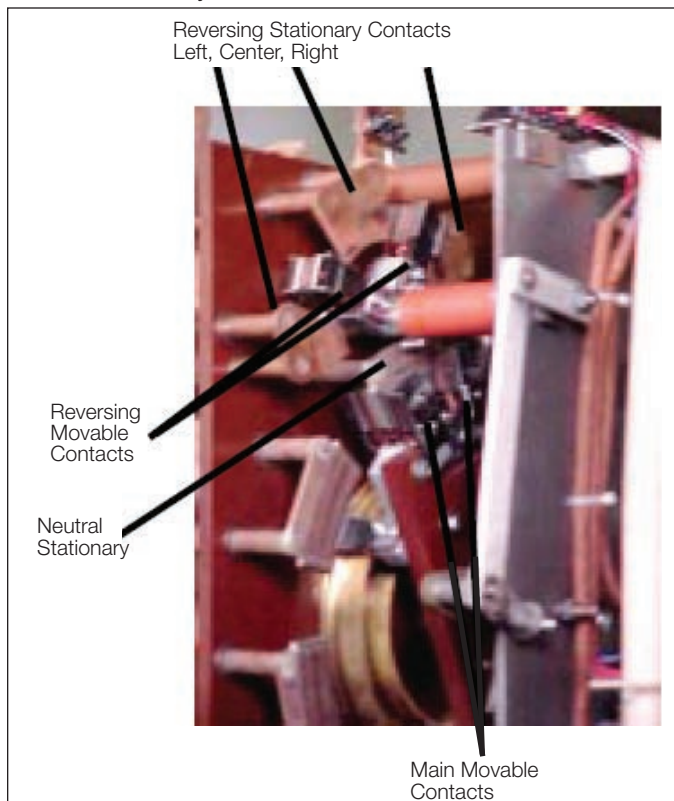

Figure 6.
- The reversing movable contacts are not making contact with either of the three reversing stationary contacts (Right, Center, Left). See Figure 6.
- The main movable contacts are to be located at 11:00 o'clock on the neutral contact. The neutral contact has two (2) copper shunts stamped with an "N" connecting the neutral contact to the center reversing stationary contact. See Figure 6.